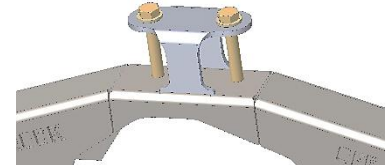

Figure 15
88. Weld upper control arm bracket to truss (see figure 15). Box Truss: Be sure holes are aligned in the bracket/truss and leave 2-5/8\" plus some wiggle room for mounting control arms. Plate Truss: Using the bracket as a template: place the bracket flush to front edge of truss and directly over the axle centerline, then mark the location of holes to be drilled. Drill the two holes starting with a small drill size and ending with 9/16\" Use plenty of oil. Be sure bolt holes are aligned in the bracket/truss and leave 2-5/8\" plus some wiggle room for mounting control arms before welding.
89. Assemble UCA mounting bolts and nuts from hardware kit 150 onto truss (see figure 15 & 16). Snug bolts and weld nuts to bottom of truss. Box Truss: Stitch weld the truss gusset into the inside of the truss. Ensure holes in gusset are aligned to truss (if applicable).